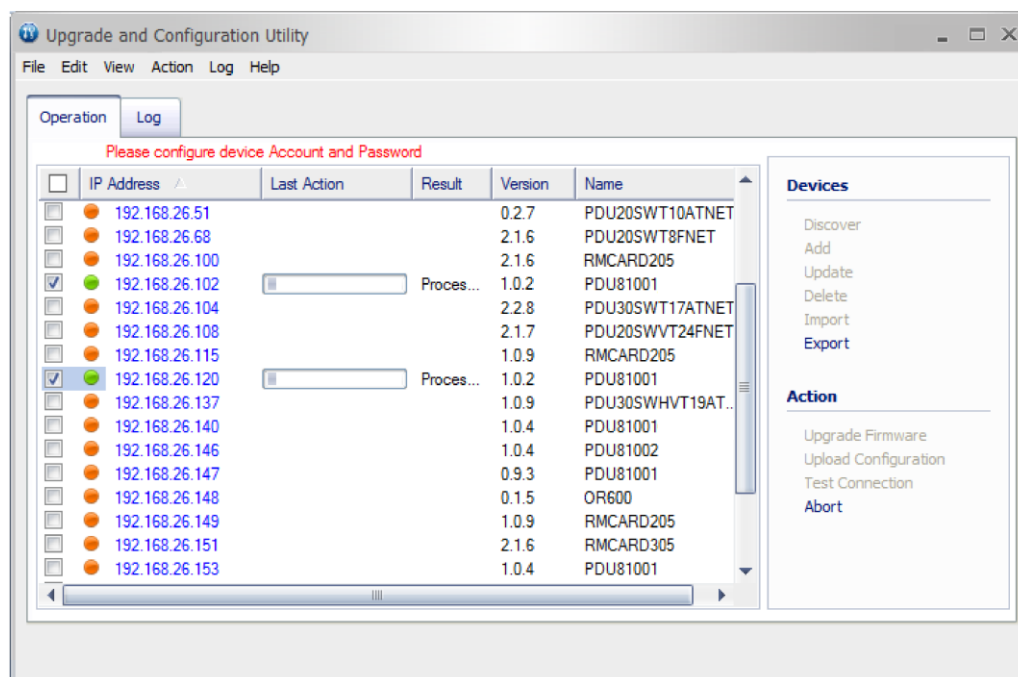

Figure 6.
9. The upgrade progress bar will show in **Last Action** column (Shown in Figure 6).